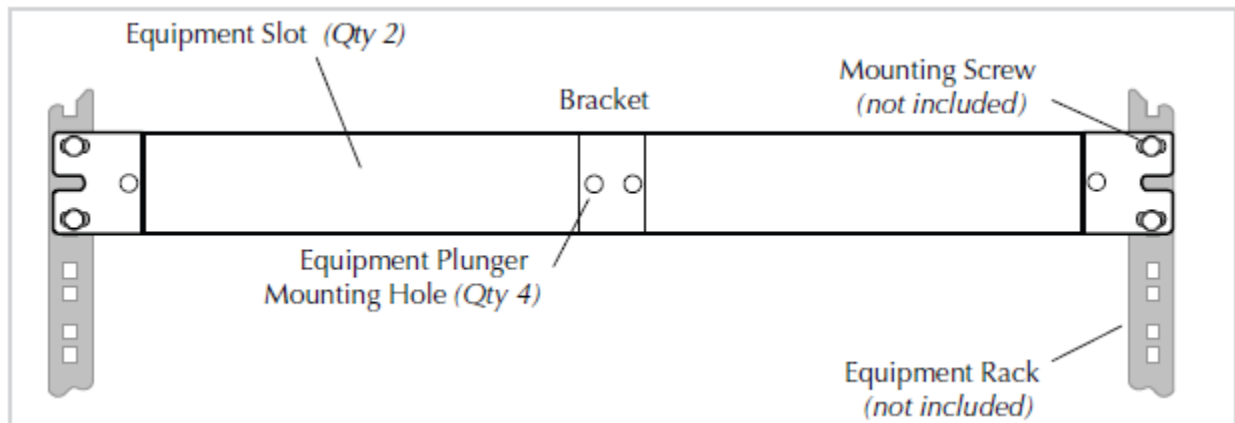

Figure 4: Bracket Installation
2. Mount the Bracket to the equipment rack, using four screws as shown in Figure 4.